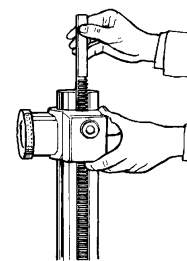

fig. 1
- 5.1.2. Install the table bracket onto the column together with the rack (fig.1), engaging gear in bracket with rack.